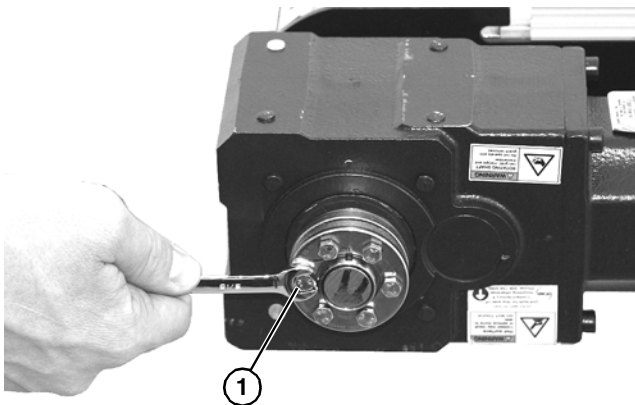

Figure 18
- Tighten six hex head screws (**Figure 18, item 1**) to secure assembly onto shaft.